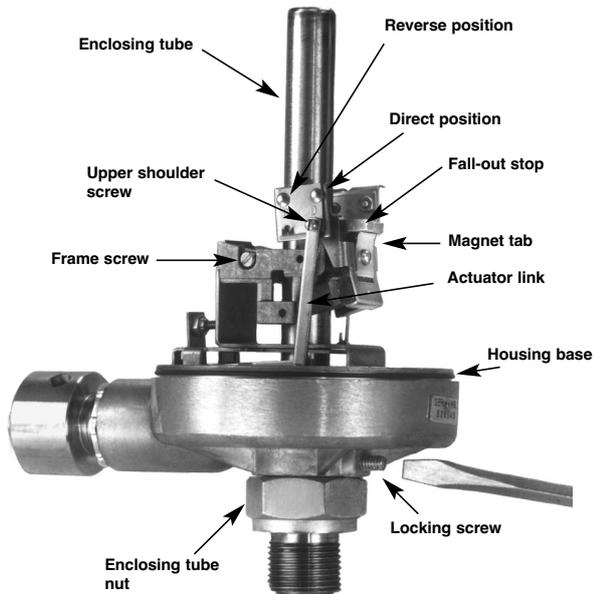

Figure 3
1. The action can be reversed by first removing the upper shoulder screw from the actuator link and moving it from the direct (D) position to the reverse (R); refer to Figure 3.
1. Loosen both the special locking screw above the enclosing tube nut and the frame screw. Refer to Figure 3.
2. Loosen both the special locking screw, above the enclosing tube nut, and the frame screw approximately 3 to 4 turns. Refer to Figure 3.
- a. Hold the magnet tab against the fall out stop. Refer to Figure 3.